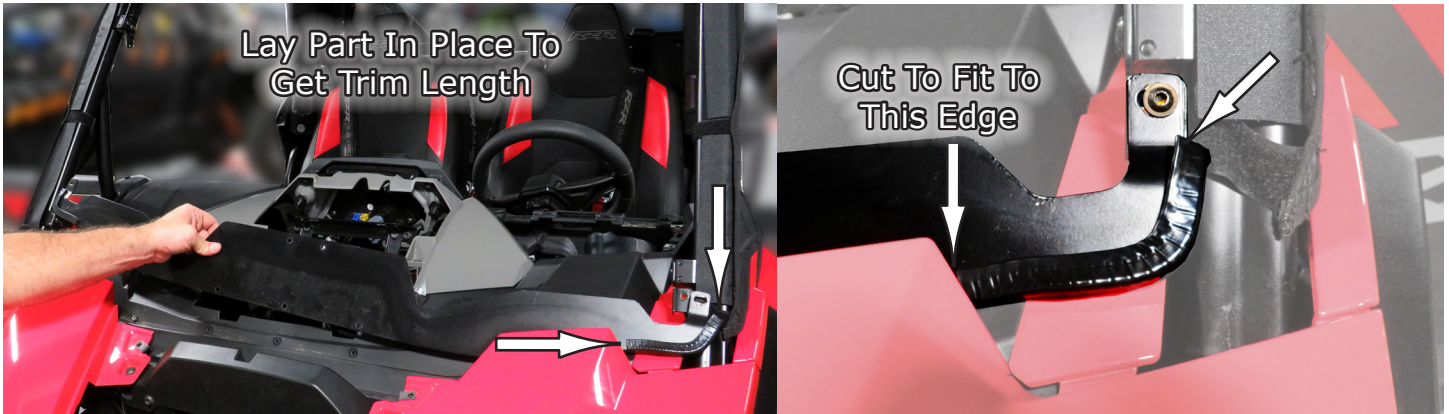

Fig.7
7. To get the approx length to cut, lay the plate in the position on the vehicle where it will go and mark where to cut from there. The inner edge of the trim should just meet the edge of the hood as shown in Fig.7.